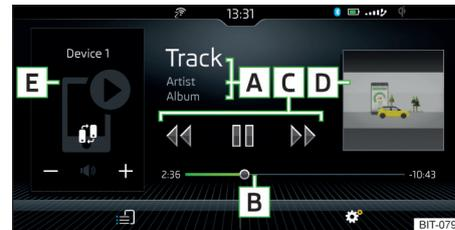
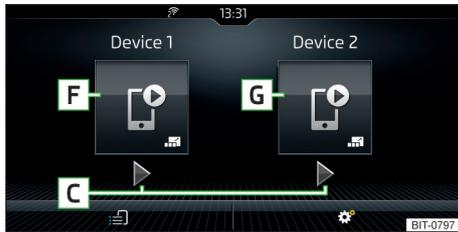

Fig. 176
Fig. 177
Main menu » Fig. 176 or » Fig. 177
- E** Name of the tablet used/Switch to main menu of two tablets » Fig. 177 (when icon displayed )
The movement within the track is possible by finger touching the timeline **B** » Fig. 176 on page 152.